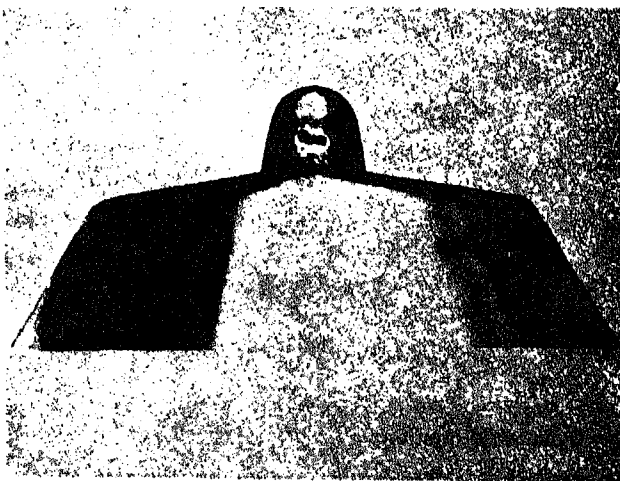

Fig. 6-1-9. Worn injector cup tip
- a. Abrasive wear: This wear can begin internally; therefore, inspect both interior and exterior. Fig. 6-1-9.